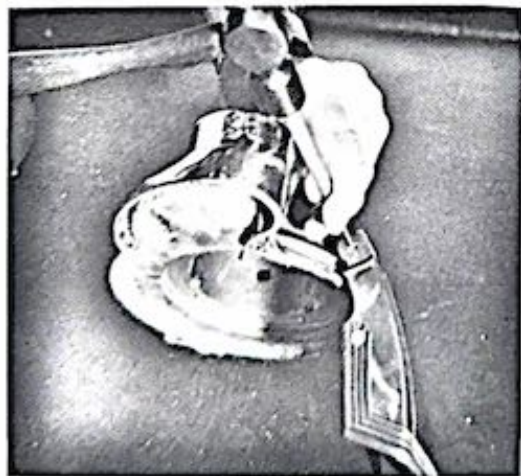

Figure 1-42. Removing headlight cap pin
(2) Remove the foot switch button and remove the housing shell from the motor housing as directed in paragraph 1-14a(1) and (2).
(3) Carefully examine the headlight cap pin (25) and you will note that one end is smooth and the other end is grooved; using a small punch, drive the pin from the smooth end (exhaust side) of the motor housing casting as shown in figure 1-42. Remove the headlight cap and the two washers (28, fig. 1-3).
(4) If the headlight cap bumper (30) is torn or excessively worn, drill out the two